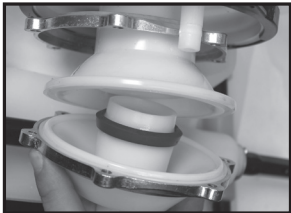

Figure 3
- 3) Pull the pump housing halves apart and inspect piston collar/diaphragm for wear. Replace as needed (Figure 3).
- 6) Re-assemble the two pump halves (fig.3).